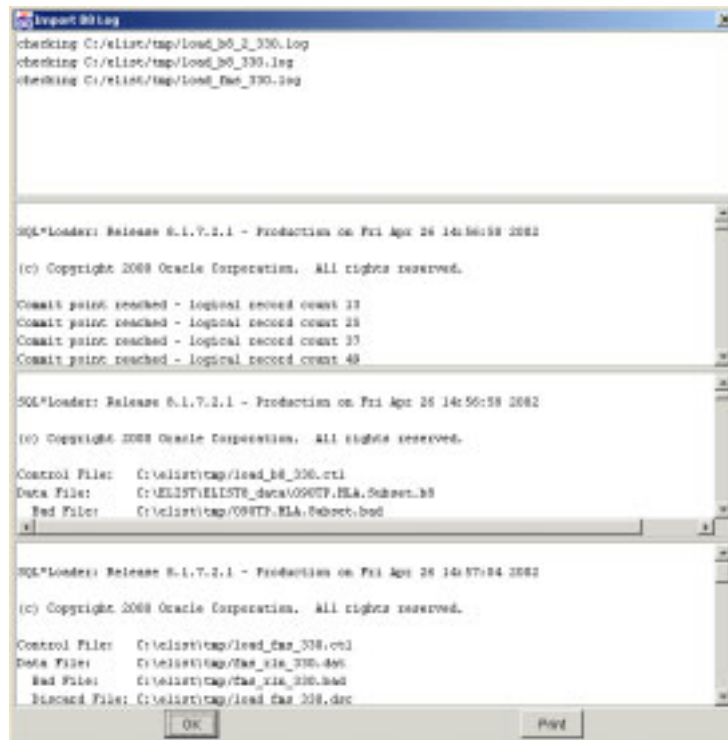

Figure 5.29 Import B8 Log Window
- To import this B8 file, click OK. After several moments, the file is imported, the Import B8 File window closes, and the Import B8 Log window opens (Figure 5.29).